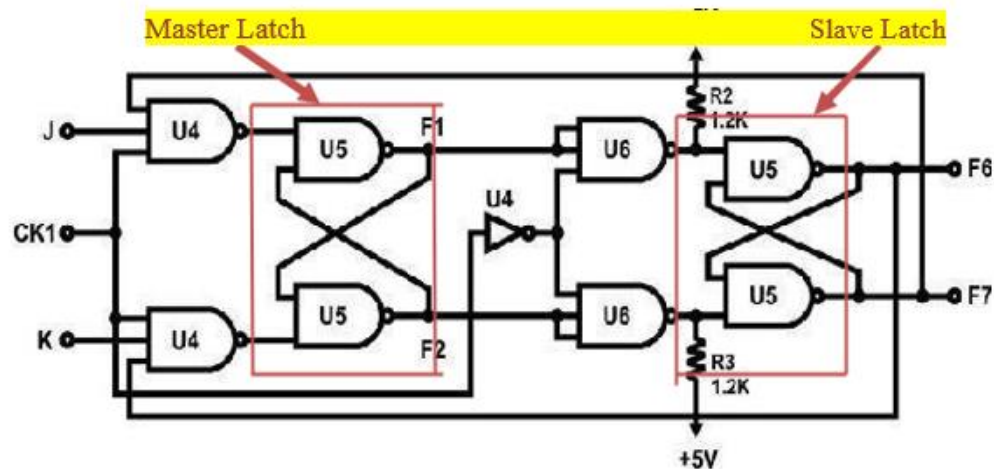

Figure 5.14: JK Flip-Flop.
- 1. Use the KL-33008 module to construct the circuit shown in Figure 5.14.